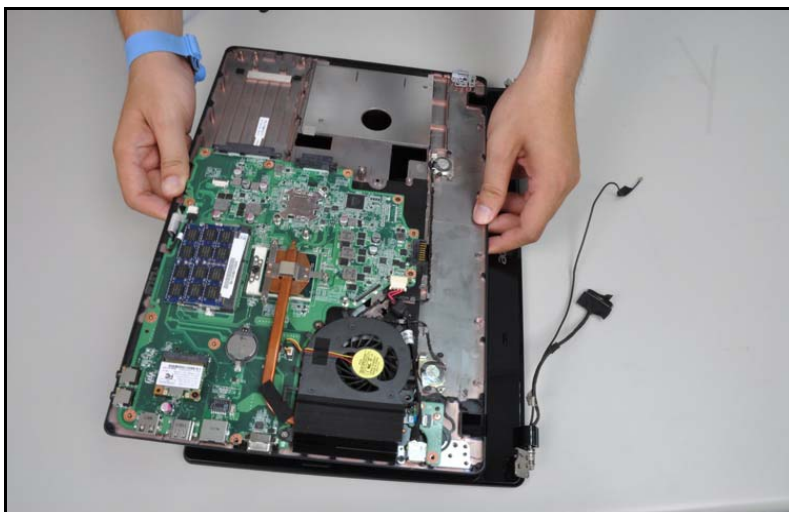

Figure 3-41. LCD Module Removal
2. Lift the lower case upward from the LCD module (Figure 3-41).